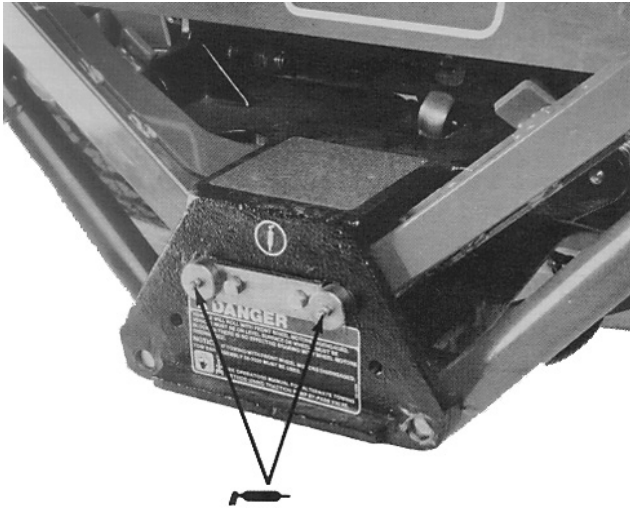
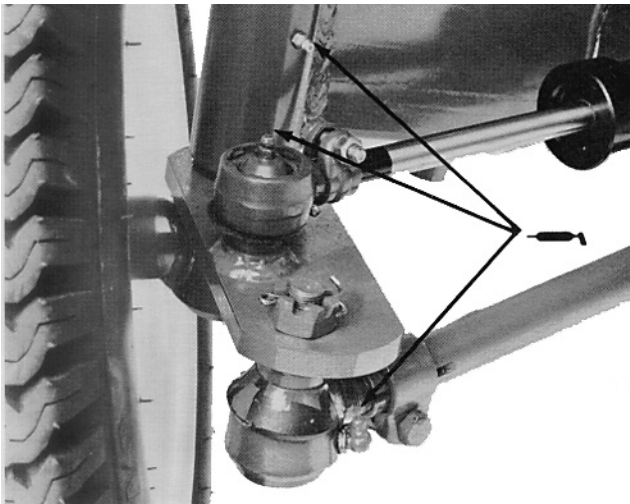
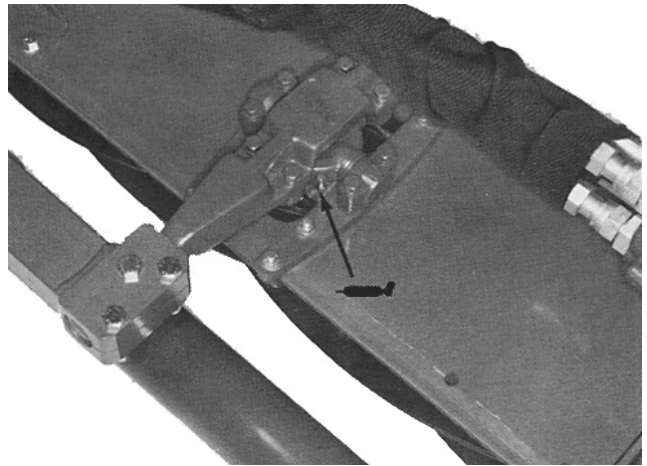
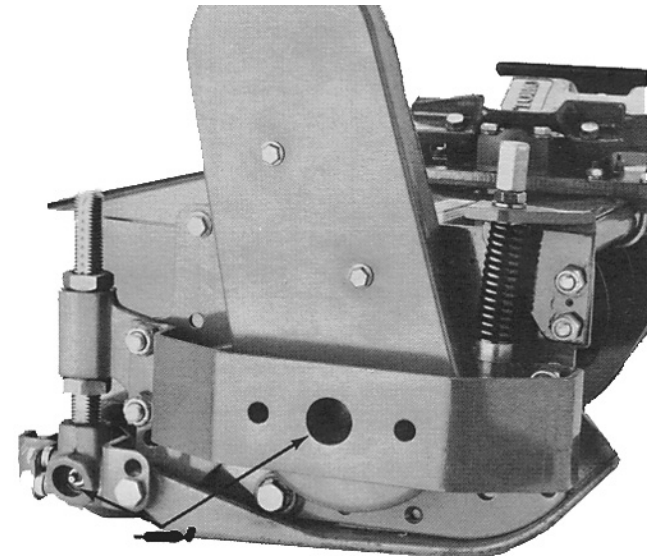

Figure 24
Figure 25
Figure 26
Figure 27
The machine has grease fittings that must be lubricated after every 50 hours of operation with No. 2 General Purpose Lithium Base Grease. Lubricate fitting immediately after every washing regardless of interval listed. The lubrication points are: lift arms (5) (Fig. 24), rear axle (6) (Fig. 25), floating or fixed head kit pivots (Fig. 26) and cutting unit reel and roller bearings (Fig. 27). Also, grease fitting on reel control valve (not shown), located under right hand console.
Note: Remove the plastic caps over the fittings on the floating or fixed head kit pivots and replace after greasing (Fig. 26).